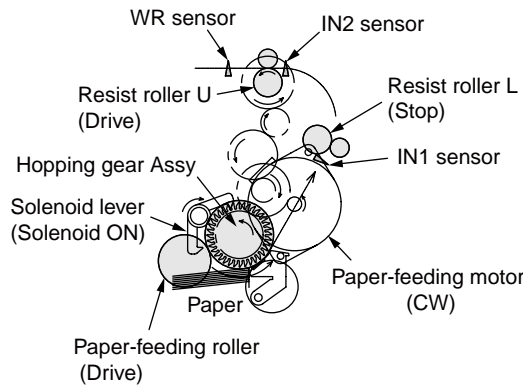

Figure 2-1
1. As shown in Fig.2-1, while the solenoid is set as ON, the paper-feeding motor is rotated (counter clockwise) to transfer the paper until the IN1 sensor is turned ON. (When the solenoid is turned ON, the paper-feeding roller is driven.)